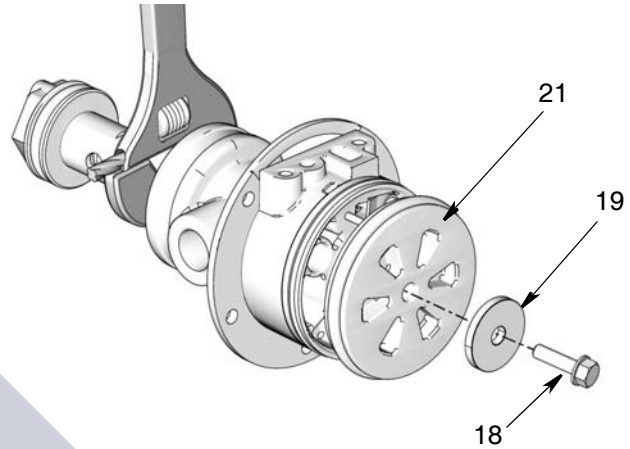

Fig. 29
3. Apply Loctite® 262 to the bolt (18). Install the washer (19) and bolt (18). Hold the displacement rod (30) with an adjustable wrench and use a 13 mm wrench to tighten the bolt securely. Torque bolt to 155 - 160 in. pounds (17.5 - 18.0 N.m) (Fig. 29).